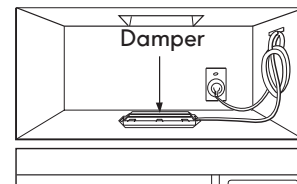

Figure 33
5. Roof vented installation: See Figure 33. Install ductwork through the vent opening in the upper cabinet. Complete the venting system through the roof according to the method needed. See "PREPARE THE VENTING SYSTEM" STEP 2. Use caulking to seal exterior roof opening around the exhaust cap. See Figure 7 on page 8.